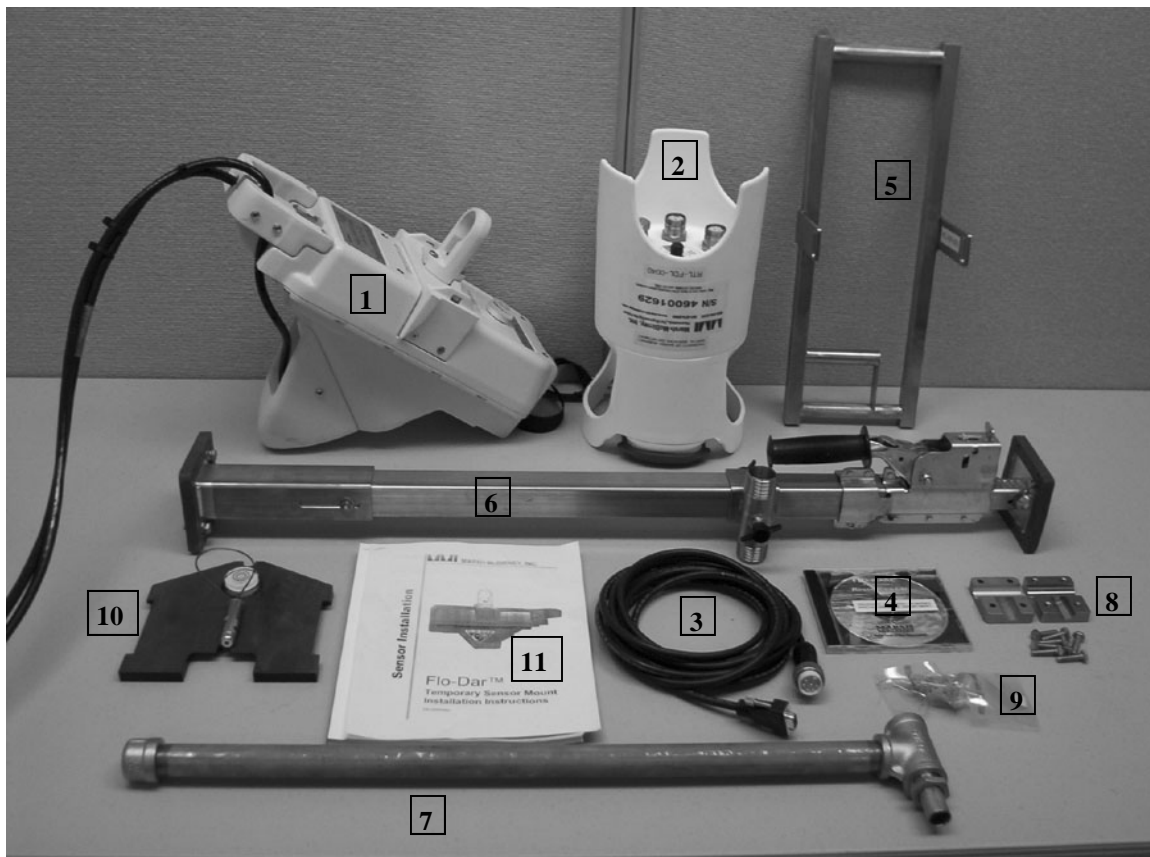

Figure 1
1) Locate the following parts (See Figure 1):